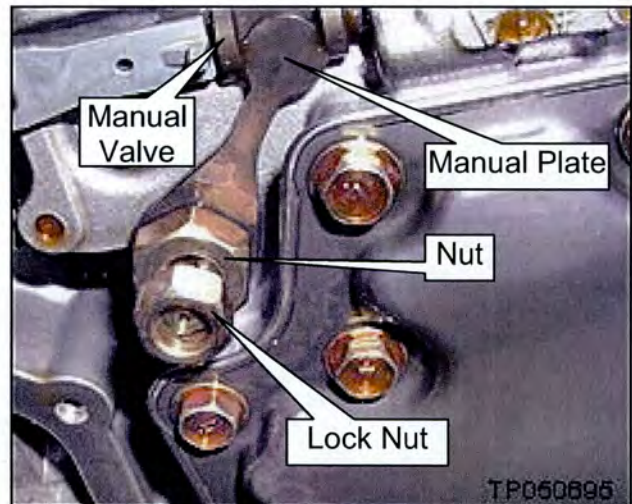

Figure 12
21. Align the manual plate with the notch in the manual valve (see Figure 12).